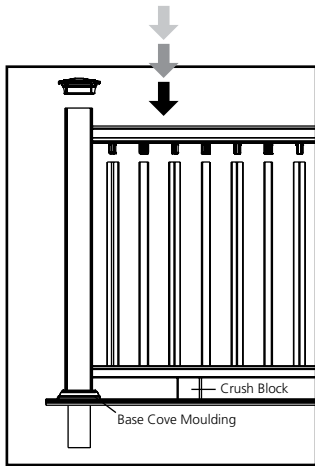

Figure 25
10. Cut the crush block to the desired height (consult local building official for the proper spacing between the deck and the railing). Place crush block on the deck surface midway between the posts (Fig. 25).
20. Once all of the balusters are engaged, gently push down on the top rail until the bottom end of the balusters contacts the bottom rail (Fig. 25). The flange of the top baluster insert should be tightly secured between baluster and the underside of the top rail.